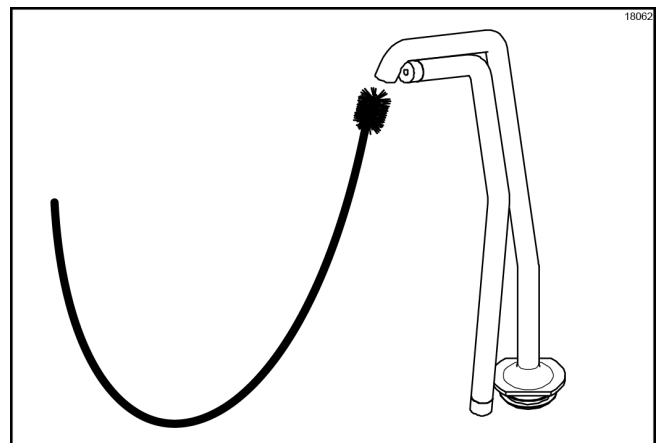

Figure-81
2. Insert the black shielded brush through the tip of the discharge tube. Move the brush back and forth to scrub the tip of the discharge tube. (See Figure-81.)